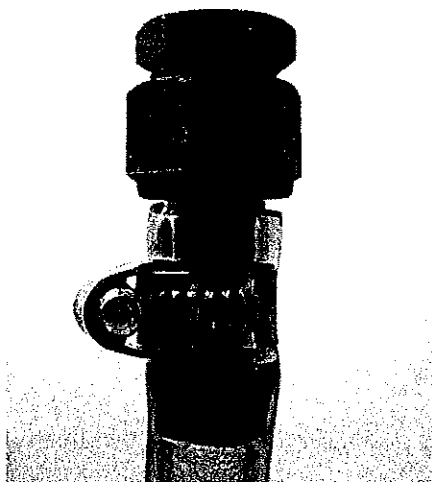

Figure 6-2. Removing the Refill Tube Cap
5. Use an open-end wrench to remove the cap of the refill tube (Figure 6-2).